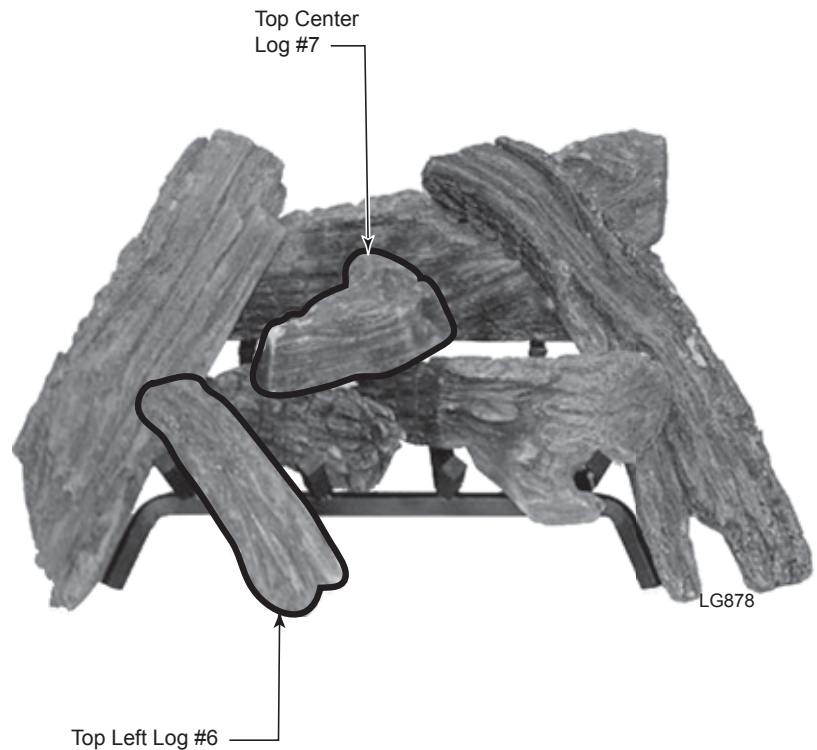

**Figure 61 -
7. Place end of Top Left Log #6 on bottom left log. Rest the other end between the first and second grate prongs. *Figure 61*
8. Rest Top Center Log #7 on bottom left log #2 and back log #1. *Figure 61*